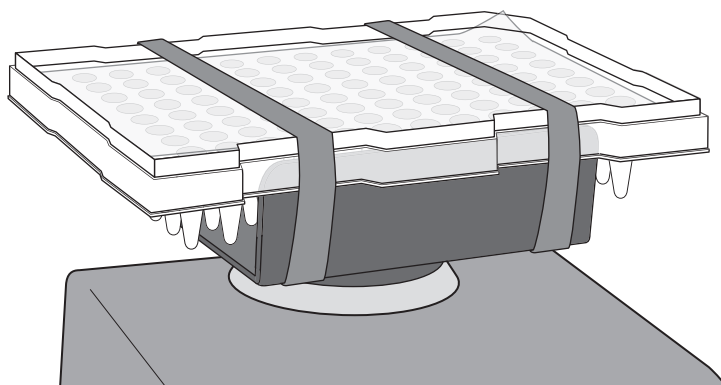

Figure 1 Elastic band positions for either type of plate with the Microplate Adapter for Applied Biosystems
- Secure the plate to the adapter using the elastic bands as shown in Figure 1 on page 48.